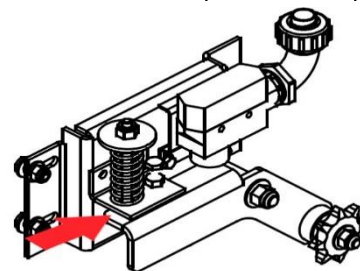

Figure 1
- Wedge the lever arm of the jam switch closed (in between where the red arrow is pointing) so that the metal makes the proximity switch as shown in Figure 1.